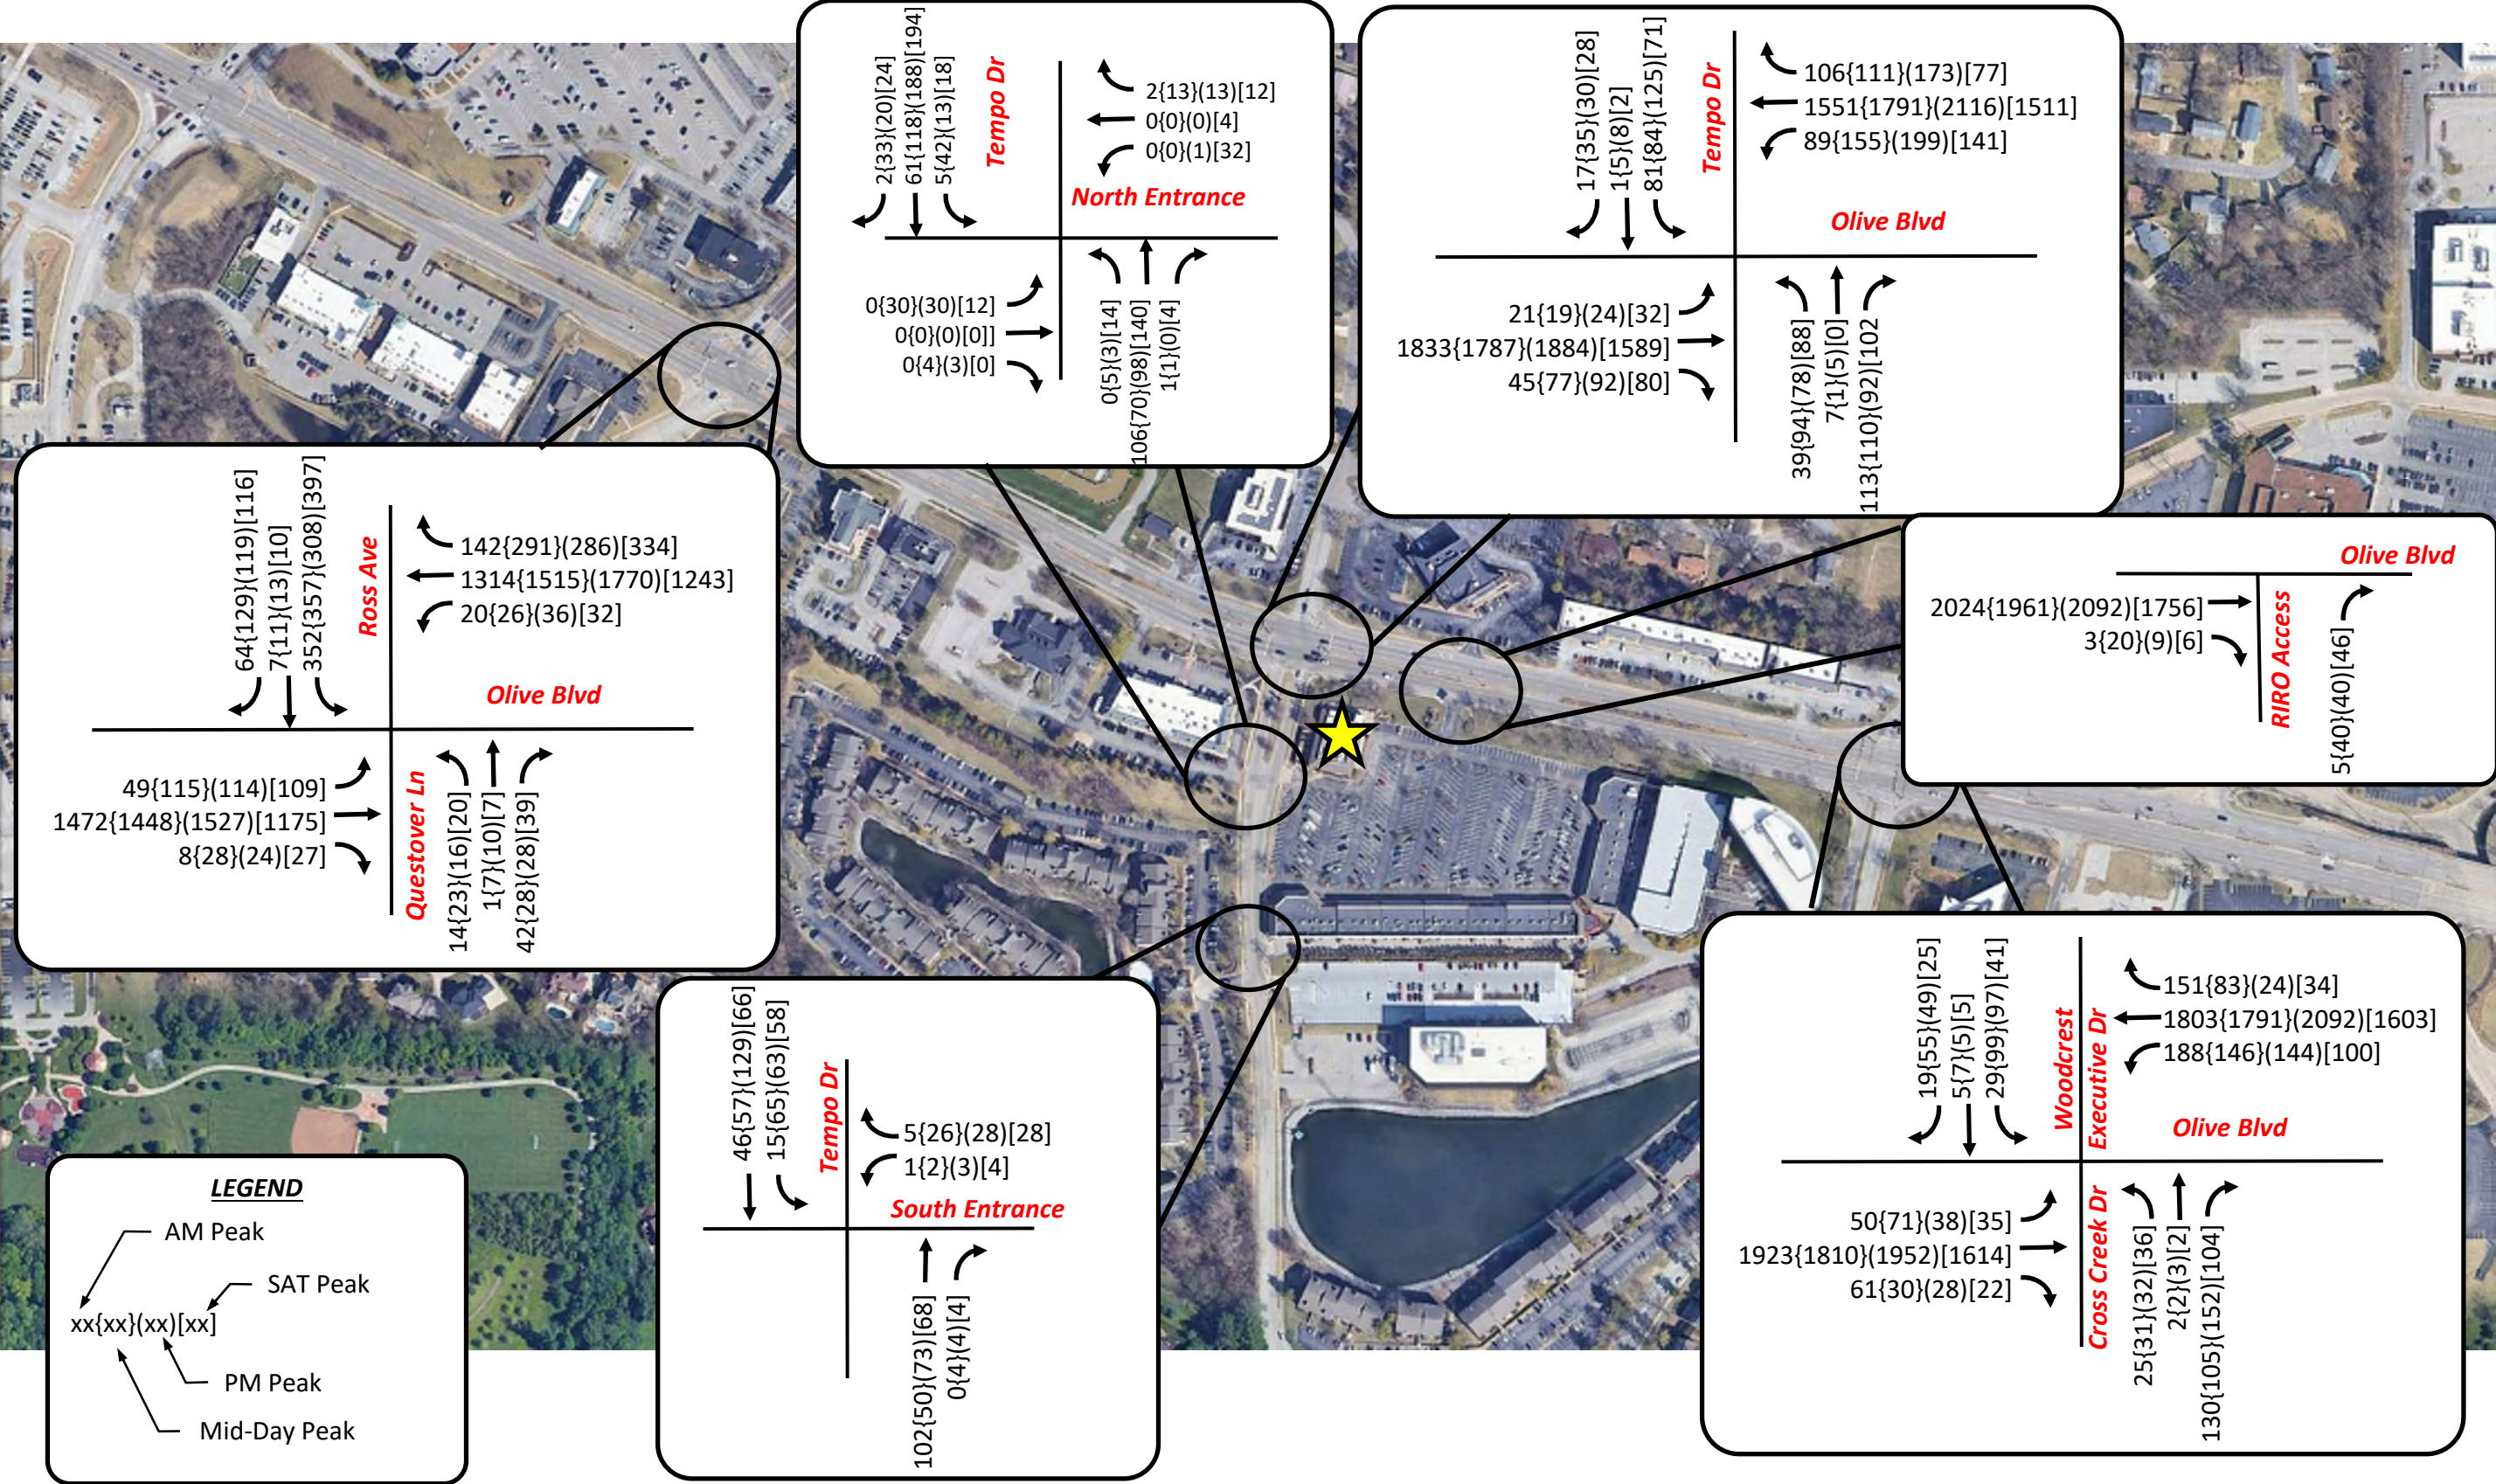

Figure 8
1. **Future 2045 (No-Build)** – This scenario will consider future traffic volumes without the impact of the proposed site generated trips (**Figure 8**).